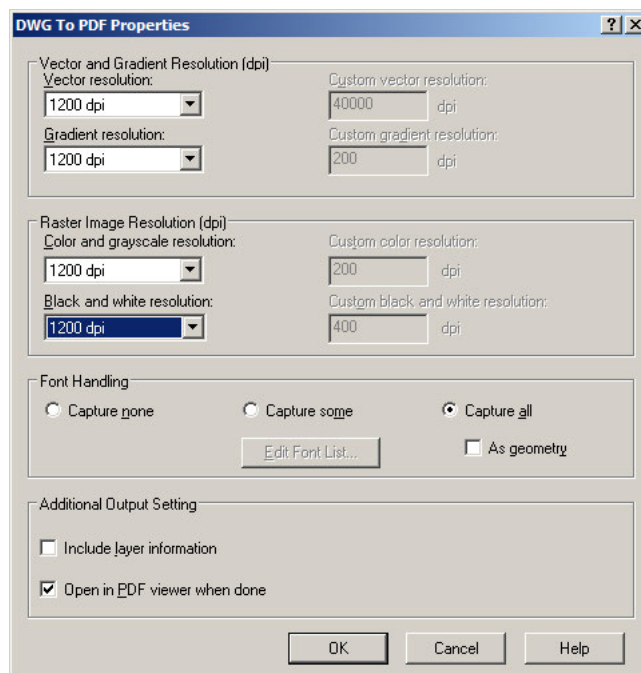

Figure 41-Plotter Custom Properties
- b. Click on Custom Properties. This opens Figure 41.